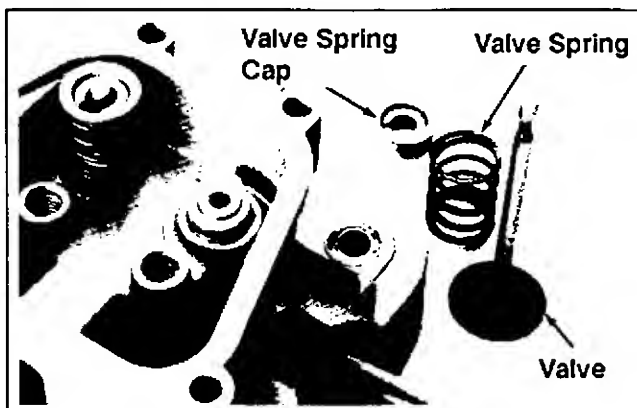

Figure 9-18. Removing Valves.
- a. Compress the valve springs by pushing down on the valve spring cap. See Figure 9-18.